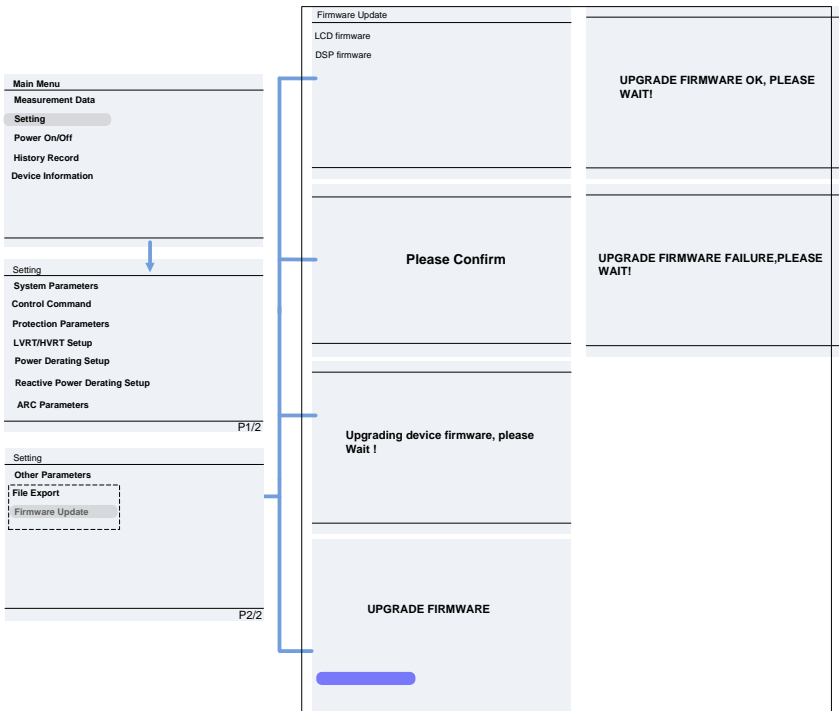

Figure 6-22 Firmware Upgrade Interface
4. Using the password to enter the **Setting** menu and select **Firmware Update**. Choose the firmware to be updated (LCD or DSP) and follow the prompts on the screen. See Figure 6-22.